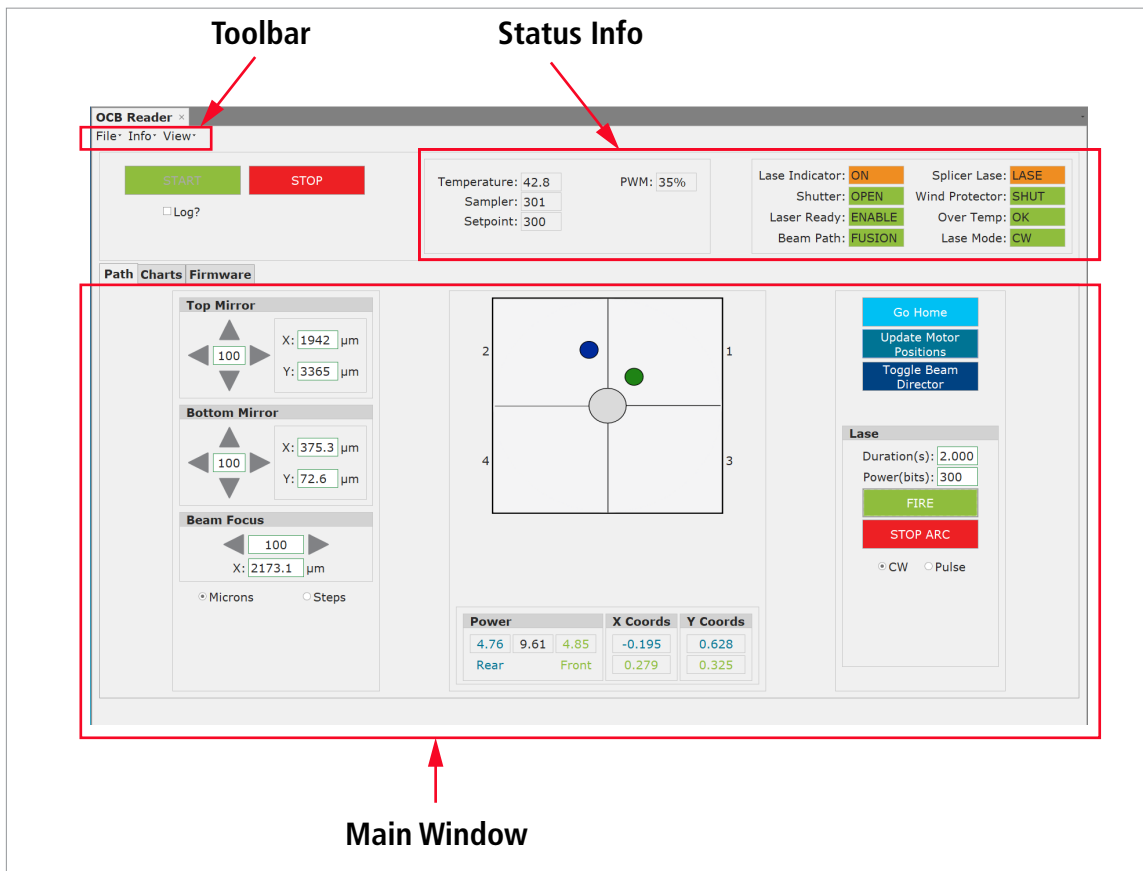

Figure 68 – Main screen of the OCB Reader
1. **Motor view:** The mirror positions can be viewed or manipulated individually using these controls. By default, all values are shown in microns. The switch at the base of this section allows the user to change all values to steps. To change the amount a motor moves when clicking an arrow, enter the desired distance in the step text box located in the middle of the four arrows as shown in Figure 68. Users may also directly move the motor to a desired position by changing the value of a position text box located to the right of the arrow buttons like shown in Figure 68.